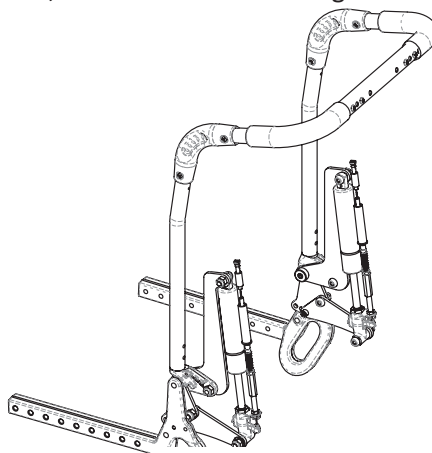

Figure 14.24: Reclining Backrest
2. Adjust the bracket to the desired angle and re-install the ¼-20 cap screw. Refer to Figure 14.24 for the cap screw position for different back angles.